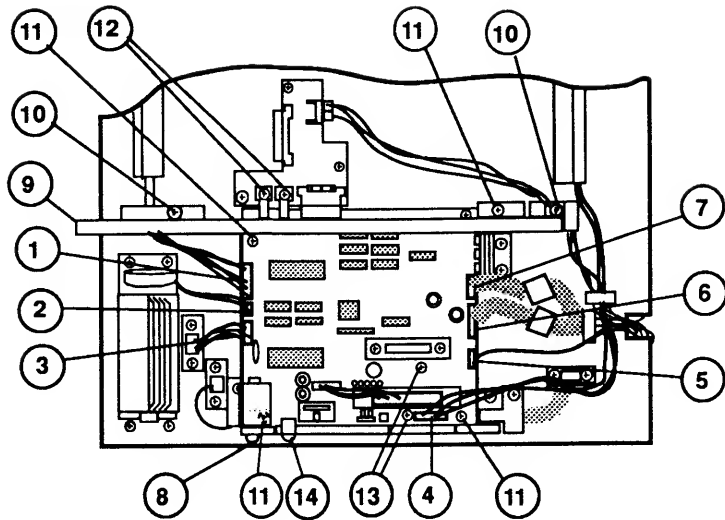

FIGURE 64
- Fuser PCA cable, J206 (Figure 64, #1)
- Lower fan cable, J207 (Figure 64, #2)
- Power supply block cable, J208 (Figure 64, #3)
- High-voltage power supply cable, J211 (Figure 64, #4)
- Optical fiber cable, J201 (Figure 64, #5)
- Scanning motor PCA cable, J203 (Figure 64, #6)
- Laser diode PCA cable, J202 (Figure 64, #7)
3. Loosen the Phillips screw (Figure 64, #8) that secures the lower cover interlock switch to the chassis. Remove the interlock switch.
4. Locate the controller-I/O board guide rail closest to the DC controller PCA (Figure 64, #9). Remove the two Phillips screws (Figure 64, #10) that secure the guide rail to the chassis. Move the guide rail away from the DC controller PCA.
5. Remove the four Phillips screws (Figure 64, #11) that secure the DC controller PCA to the chassis.
6. Remove the two Phillips screws (Figure 64, #12) that secure the power lugs to the connector PCA.
7. Remove the two Phillips screws (Figure 64, #13) that secure the two DC power supply connectors.
9. Remove the jumper at J209 (Figure 64, #14), if one is present.
1. If a jumper is not installed at J209 (Figure 64, #14) on the replacement DC controller PCA, install the jumper that you removed earlier. If you do not have a jumper, replace the DC controller PCA without one.
2. Place the DC controller PCA in position and replace the four screws (Figure 64, #11).
3. Replace the two DC power supply connector screws (Figure 64, #13).
4. Replace the two power lug screws (Figure 64, #12).